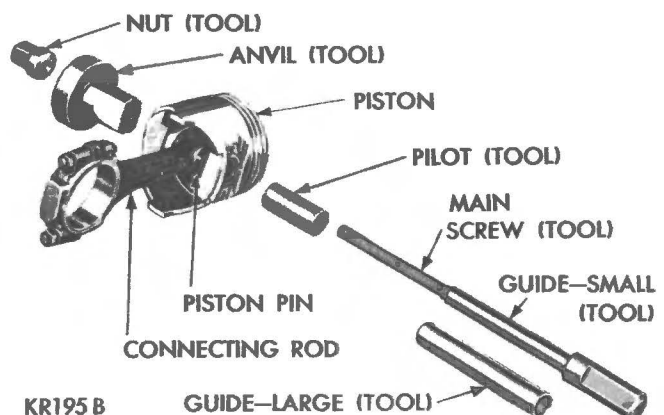

Fig. 33 - Tool arrangement for removing piston pin (Tool CA-3724).
(1) Arrange Tool CA-3724 parts for the removal of piston pin (see Fig. 33).
(2) Install pilot on the main screw.
(3) Install the screw through the piston pin.
(4) Install anvil over the threaded end of the main screw with small end of anvil against the piston boss.
(10) Press in the piston pin until it bottoms on the pilot, correctly positioning the pin in the connecting rod.
(11) Remove the tool and arrange the tool parts and piston assembly in the same manner as shown in Fig. 33 for checking pin fit.